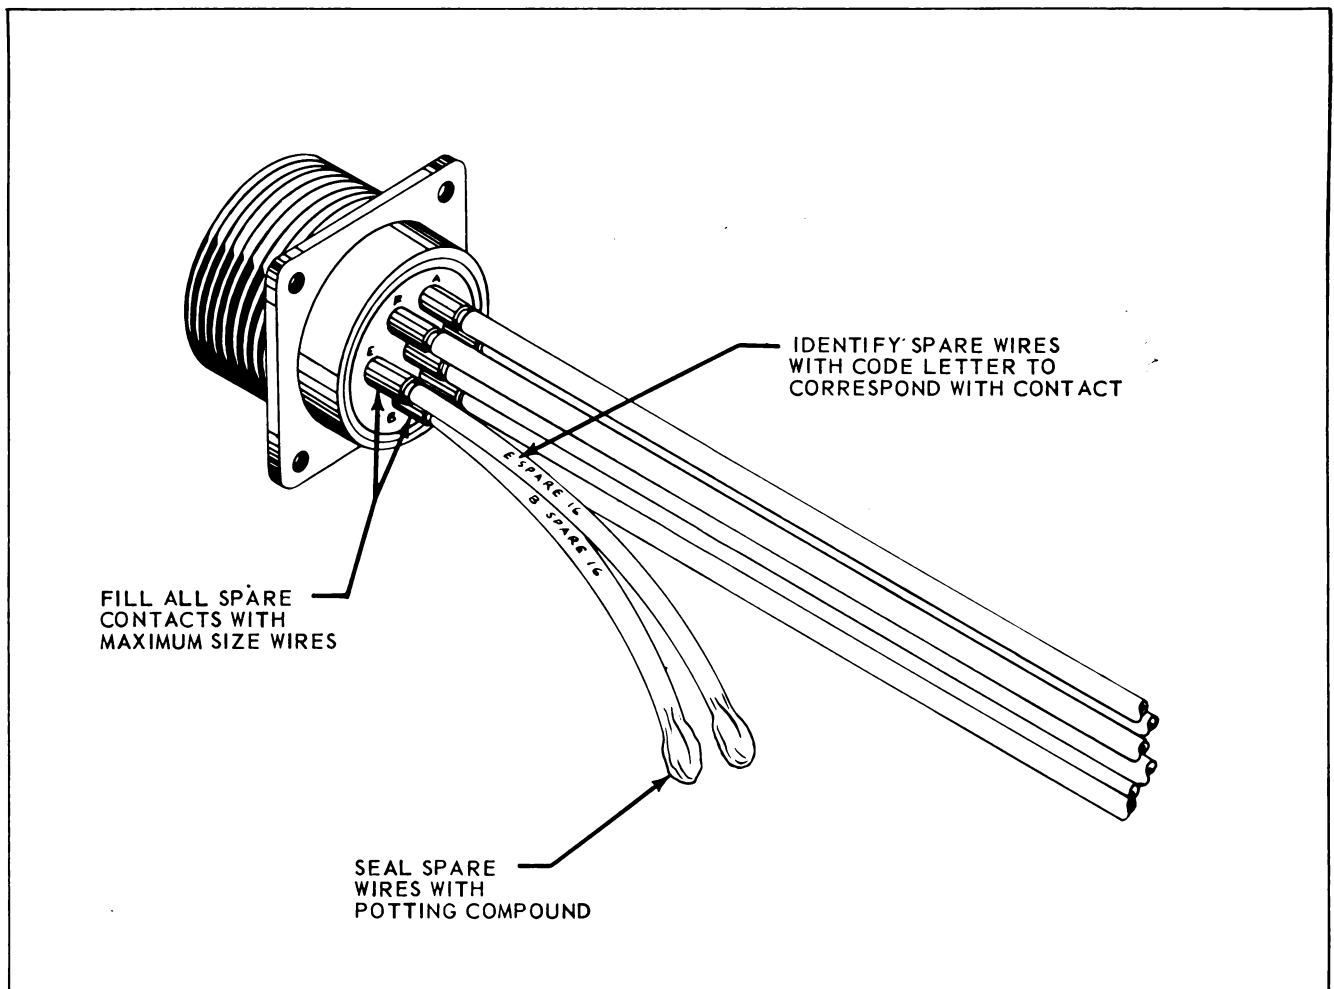

Figure 3-47. Spare Wires for Potting Connector
- c. Install spare wires on all unused pins. Use largest AN gage wire that would normally be attached to each contact. Spare wires are approximately 9 inches long. (See Figure 3-47.)
h. Seal the ends of all spare wires by dipping into potting compound to a depth of about 1/2 inch. (See Figure 3-47).